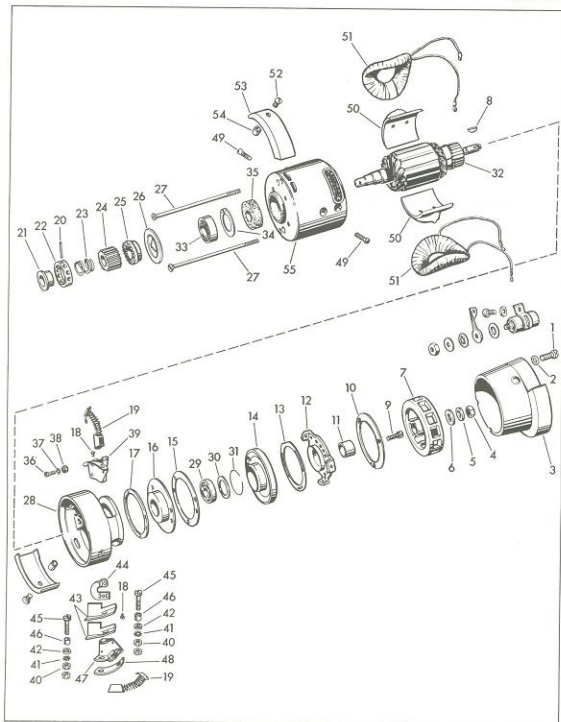

Figure 5E-7. Fan Cooled Generator
See Fig. 5E-7. Remove the three screws (1) and washers (2) securing the fan housing (3) and remove it. Inspect brushes to make sure they are not worn out, broken or gummy and sticking in holders.
## LEGEND FOR FIGURE 5E-7